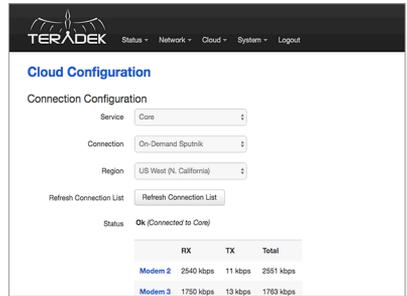

Fig. 2
- 5 Click the **Cloud Configuration** shortcut button, select a region, then click **Save & Apply**. (Fig.2).